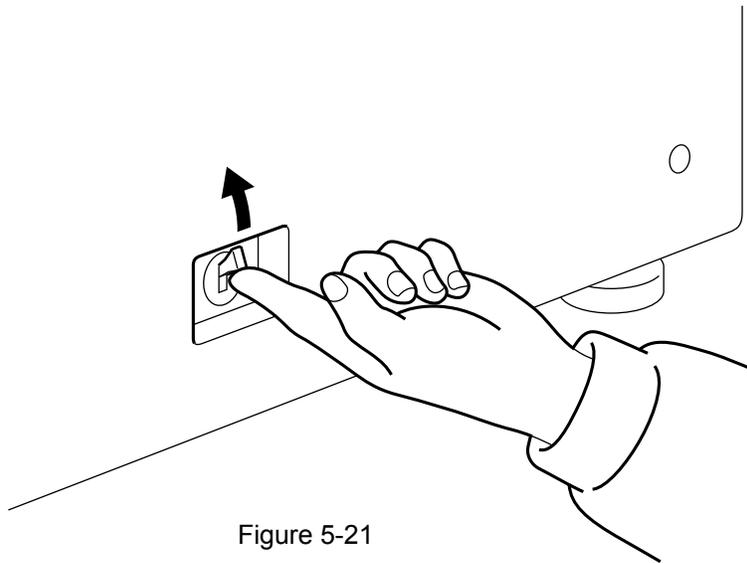

Figure 5-21
1. Place the printer circuit breaker in the ON position, (Figure 5-21).